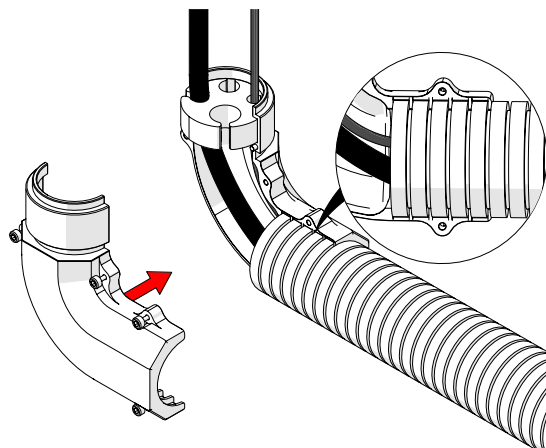

Fig. 85 - Place the conduit in the ridges of the mount
5. The rubber cable clamp fits into the cable management mount (*Fig. 85*).
6. Ensure the conduit is positioned correctly within the ridges of the cable management mount (*Fig. 85*).
7. Press the opposite side of the cable management mount onto the conduit (*Fig. 85*).